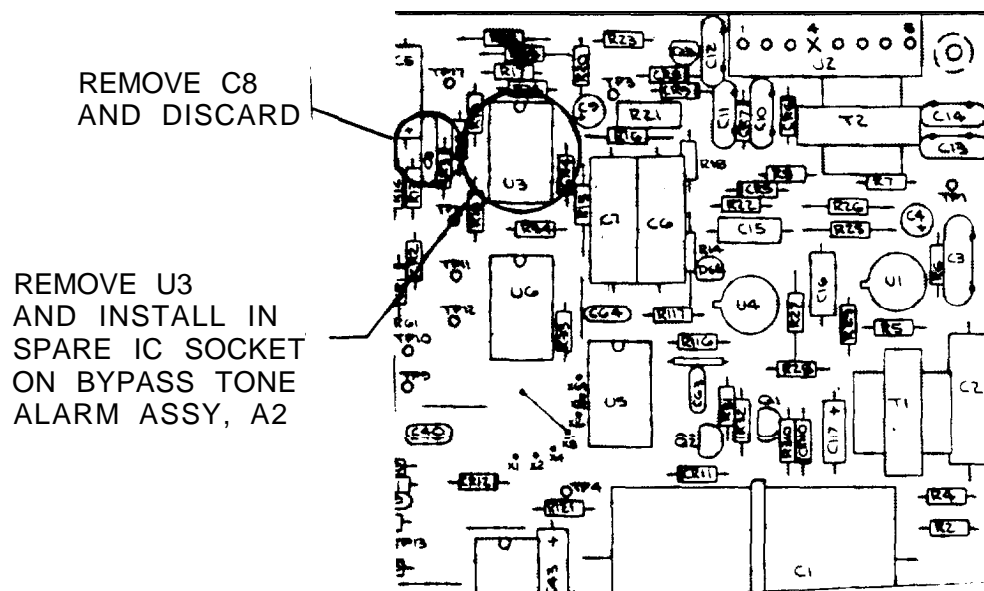

Figure 2. Remote Control PC Board Assembly, Right Rear Corner
8. Remove capacitor C8 from the Remote Control Assembly A1 and discard. C8 is located to the left of U3, refer to Figure 2.
9. Remove integrated circuit U3 (P/N 402978, Quad OP Amp LM249) from the Remote Control PC Board Assembly, refer to Figure 2. Install U3 in the spare socket on the Bypass Tone Alarm Assembly, refer to Figure 4. Install connector A2W1P2 in the socket formerly occupied by U3. U3 should be saved for backup purposes in case of failure of the bypass tone alarm assembly. It may be reinstalled into its original location so operation of the system can be restored until the bypass tone alarm is repaired. In such a case, replacement of C8 is not required.